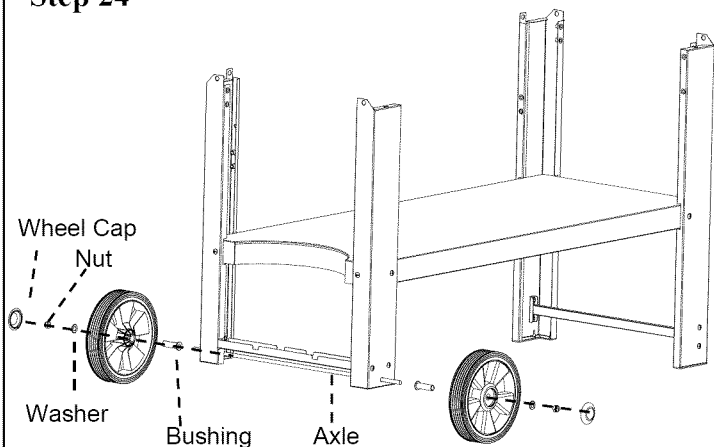

Fig. 24
*Locate:* Axle, (2) Wheels, (2) nuts, (2) Washers and (2) bushings for Axle
*Procedure:* Push-off the wheel caps from the Wheels first. Slide the Axle through the Left Front Leg #4 and Left Rear Leg #3. Slide (1) Wheel and (1) bushing over each end of the Axle, and Secure the Wheels into place using (2) washers and (2) nuts as shown as Fig. 24. Place the wheel caps onto the out-sides of the Wheels.